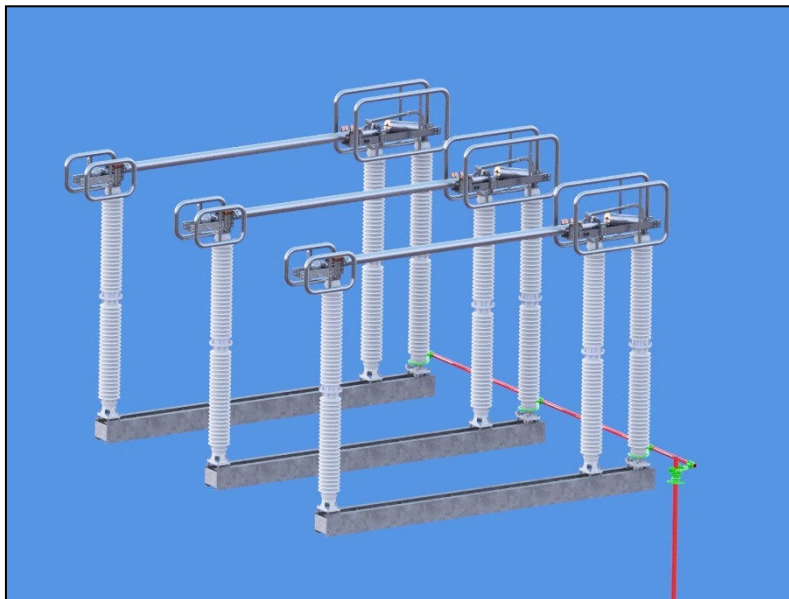
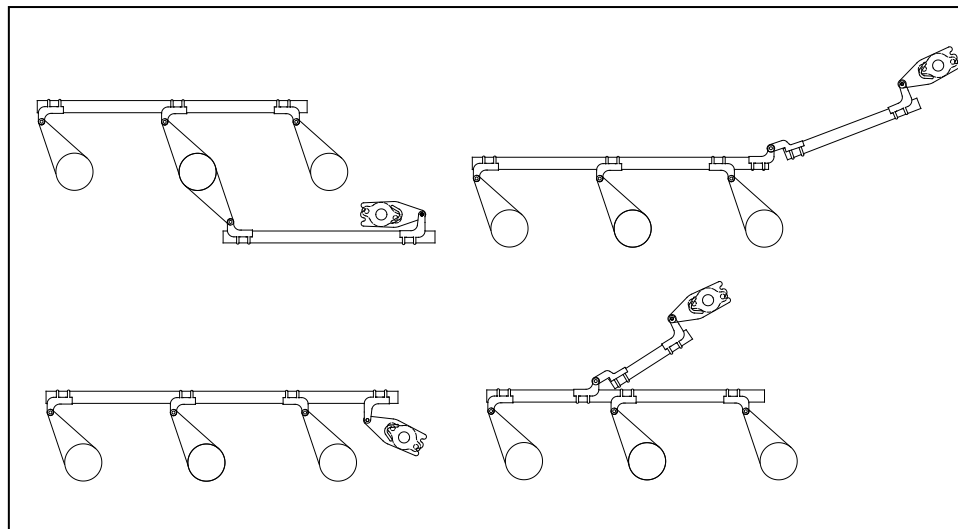

Figure 13: Typical Operating Mechanism for EV-2H
Figure 14: Alternate Operating Mechanism Designs
- 5.2. **Figure 13** shows a typical operating mechanism for a 121kV vertical break switch. **Figure 14** shows alternate operating mechanism designs, each of which is employed as being the simplest arrangement for a given structure. In all cases, however, the operating principle remains the same, and the methods of installation and adjustment are virtually identical.